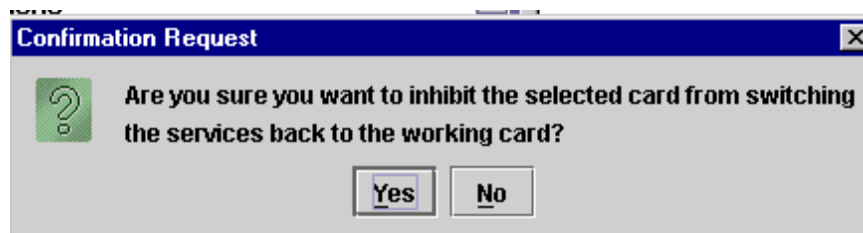

Figure 7. Inhibit Switch to Protection
31. Double-click the switch to select it for the main panel and then double-click *Cards*. Right-click the desired IOM, select *Modify* and then select *Switch to Protection*. A confirmation screen will appear. Select *Yes* to switch to protection. Refer to Figure 7.